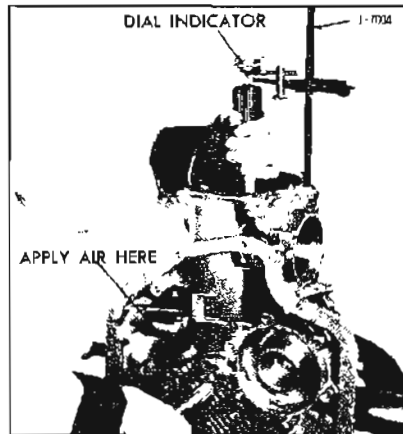

Figure 5-700
14. Check rear end play as follows: See Figure 5-700.